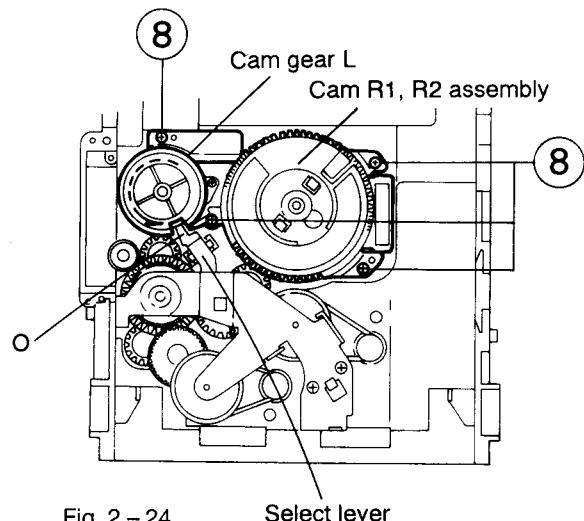

Fig. 2-24
- While turning the cam gear L, align the pawl (O) position of the select lever to the notch position (Fig. 2-24) on the cam gear L.
- Remove the four screws ⑧ retaining the cam unit (cam gear L and cams R1/R2 assembly) (See Fig. 2-24).